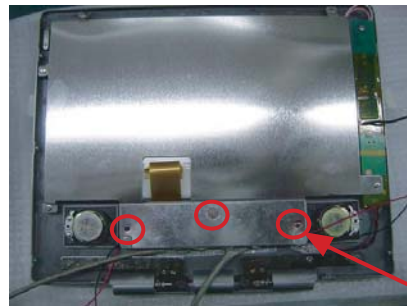

Fig.9
6. Remove IF board shield as Fig.9